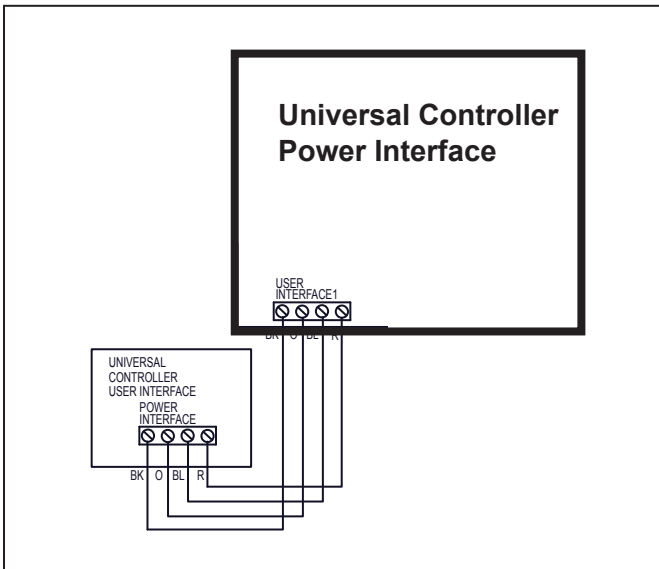

Figure 1. Universal Controller Wiring Connections
6. Remove five (5) screws from the user interface housing.
8. Noting the position of each wire, disconnect wires (black, orange, blue, and red) from the terminal block connection on the universal controller board by loosening the terminal screws (see Figure 1).
1. Connect wires from the terminal block to the new user interface (black, orange, blue, and red) and secure by tightening the terminal screws (see Figure 1).
3. Replace five (5) screws.